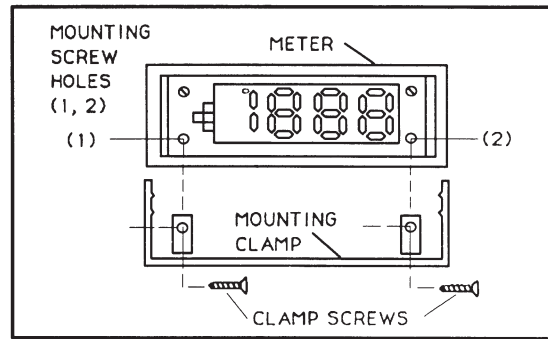

Figure 2. Meter and Mounting Clamp
4. Remove the two mounting screws, one from each side of the meter's displays, shown in Figure 2.